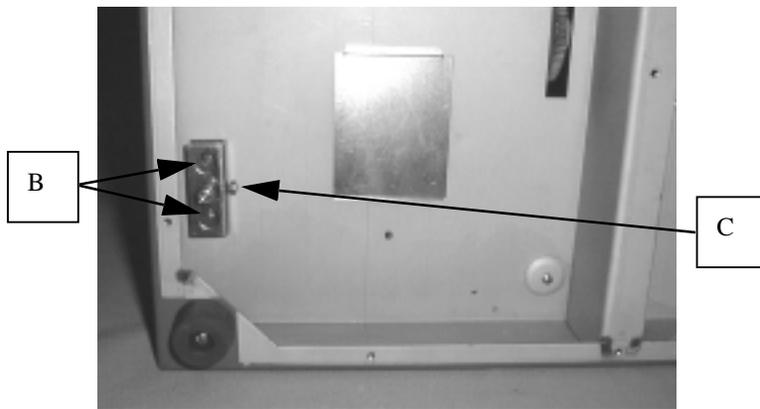

FIGURE 11-2
2. Fix bind screws 4x5(B) after positioning the horizontal position of the machine by + pan head screws 6x35(C). Fig.11-2.